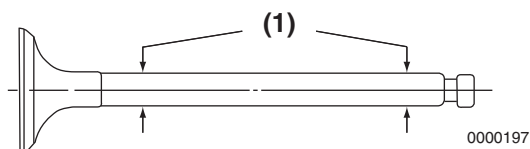

Figure 6-16
Use a micrometer to measure the valve stem diameter. Measure the valve stem near the combustion end and near the opposite end (**Figure 6-16, (1)**). Record the measurements. See *Intake / Exhaust Valve and Guide on page 6-6 for the service limit.*